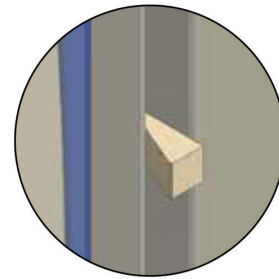

FIG 7.
- Carefully lift panel into channel and temporarily wedge into position from outside bath (FIG 7). Glass should be touching wall on inside of shower. Check panel is level and plumb and add extra setting blocks if necessary to level it.